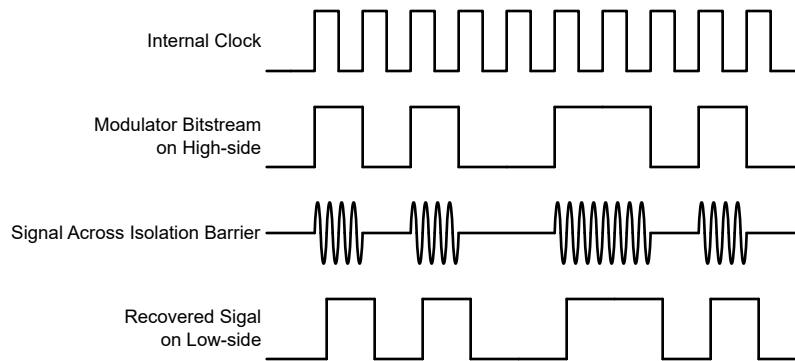

Figure 7-1. OOK-Based Modulation Scheme
As shown in Figure 7-1, the AMC0x30S-Q1 uses an on-off keying (OOK) modulation scheme to transmit the modulator output bitstream across the SiO_2 -based isolation barrier. The transmit driver (TX) is illustrated in the Functional Block Diagram. TX transmits an internally generated, high-frequency carrier across the isolation barrier to represent a digital one. However, TX does not send a signal to represent a digital zero. The nominal frequency of the carrier used inside the AMC0x30S-Q1 is 480MHz.